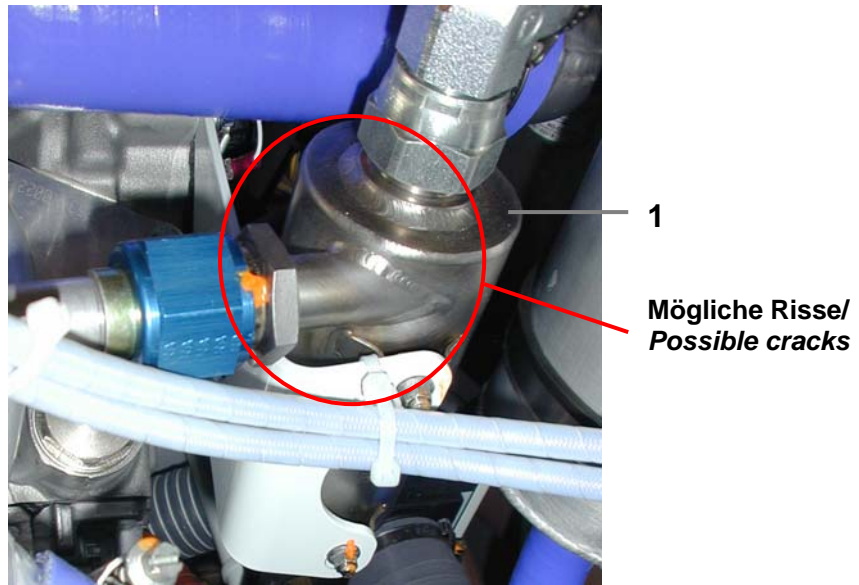

Bild 1/ Figure 1
1. Check oil return lines for cracks and oil leakage. See figures 1 to 4.